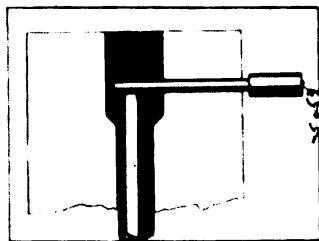

Figure 76—Install Tubing to Depth of Stop Pin as Shown
f. Tube Cutting and Flaring (Figs. 76, 77 and 78). When tube assembly is not available, it will be necessary to cut tube to proper length and flare ends to fit couplings. Tubing that is not properly flared will leak and cause brakes to be ineffective. Cut and flare tubing in following manner:
(1) Cut the tubing to the desired length, using KM-KMO-3 special tube cutter to prevent flattening. Square off the end with a fine-cut mill file, then ream the sharp edges with reamer blade provided on the tube cutter.
(2) Place new compression coupling nuts on tubing. Dip end of tubing to be flared in Hydraulic Brake Fluid. This lubrication results in a better formation of the flare. Loosen clamping nuts on KMJ-1885 flaring tool, and insert tubing in channel of the die until it bears against the stop pin. Fig. 76.
(3) Tighten clamping nuts by hand and place fixture in a bench vise. Then tighten down clamping nuts firmly with a wrench and remove stop pin from the die. The tubing is now firmly gripped in die and ready for the first flare-forming operation.